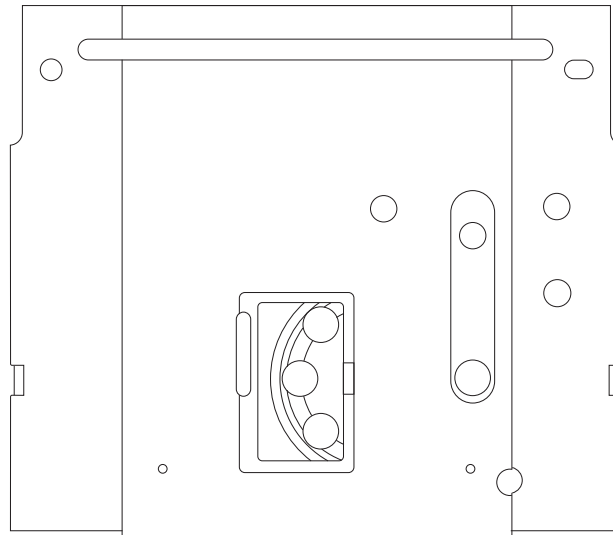

Figure 4.22 Installing New Filter
11. Insert the new filter with the reflective side facing inward. Refer to Figure 4.22.